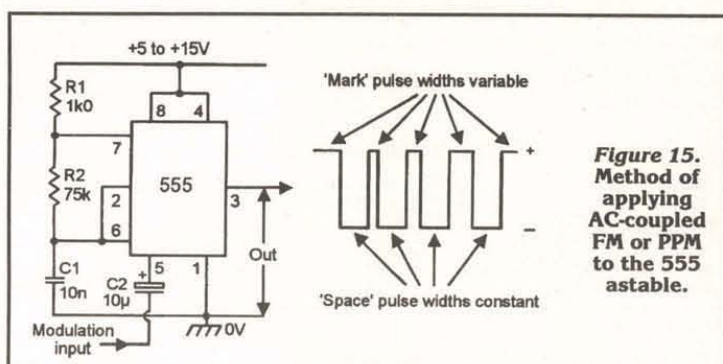
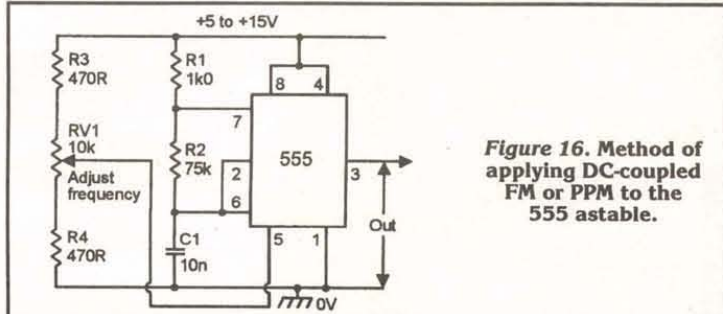

Figure 15. Method of applying AC-coupled FM or PPM to the 555 astable.
Figure 16. Method of applying DC-coupled FM or PPM to the 555 astable.
All the 555 astable circuits shown so far can be subjected to frequency modulation (FM) or to pulse-position modulation (PPM) by simply feeding the modulation signal to pin 5 (which connects to the IC's internal divider chain); this modulation signal may be an AC signal that is coupled to pin 5 via a blocking capacitor, as shown in Figure 15, or it may be a direct-coupled DC signal, as in Figure 16.